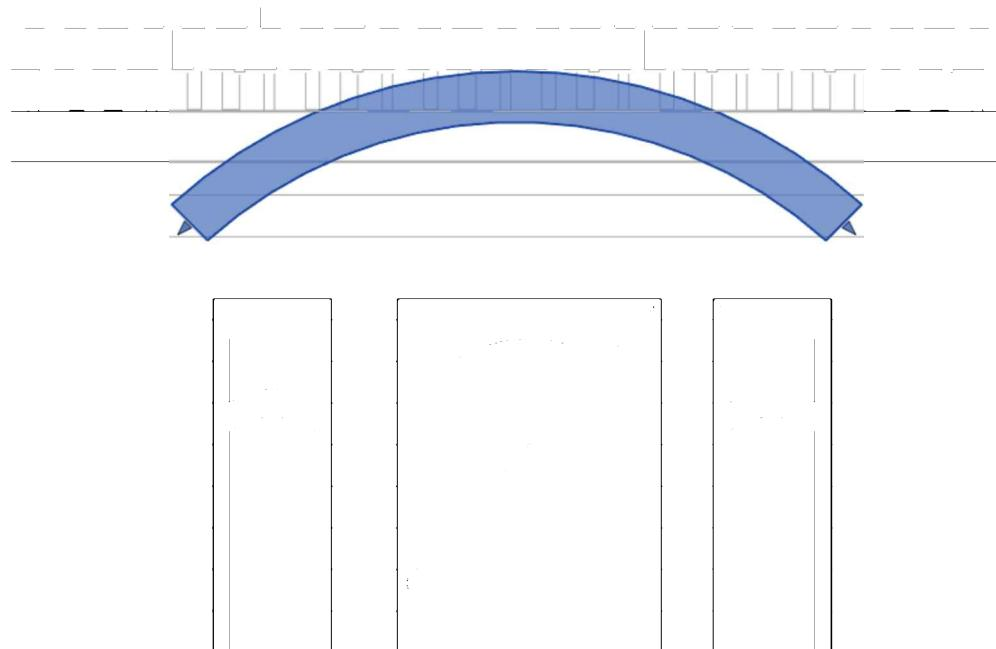

FIGURE 10-5.18 South elevation; roof element moved to a lower position
49. Use the arrow keys on the keyboard to nudge the roof element down until it looks similar to Figure 10-5.18.